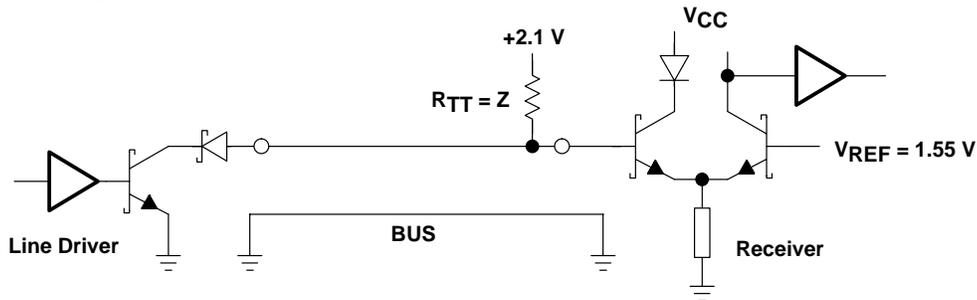

Figure 1. Open-Collector Bus System Using BTL/FB+ Devices
FB+ devices are 5-V V_{CC} BiCMOS translators that operate between TTL logic levels on the card and BTL signal levels on the backplane. The backplane signals are generated by an open collector and a termination network (see Figure 1). The saturation voltage of the pulldown transistor and the forward voltage of the serially connected diode generate the output low-level voltage of 1.1 V. The high level of 2.1 V comes from the termination resistor (R_{TT}) connected to the termination voltage of 2.1 V. R_{TT} should equal the loaded-bus line impedance (Z), but the effective dc resistance, as seen by the driver in a typical double-terminated backplane, is R_{TT} in parallel with R_{TT} or one-half R_{TT} . Matching R_{TT} with Z ensures incident-wave switching and improves signal integrity. FB+ devices can handle a current (I_{OL}) up to 100 mA, which equals a R_{TT} of 20 Ω or an effective line impedance of 10 Ω ($R = (V_{OH} - V_{OL})/I_{OL}$). For safe detection of logic levels, the inputs are designed with differential amplifiers and a fixed threshold at 1.55 V \pm 75 mV, exactly in the middle of the voltage swing. FB+ logical-layer specification is, according to IEEE Std 1194.1-1991 (BTL) and IEEE Std 896-1991 (FB+), describing node management, live insertion, and profiles. However, the physical layer can be used stand-alone, without the logical layer.